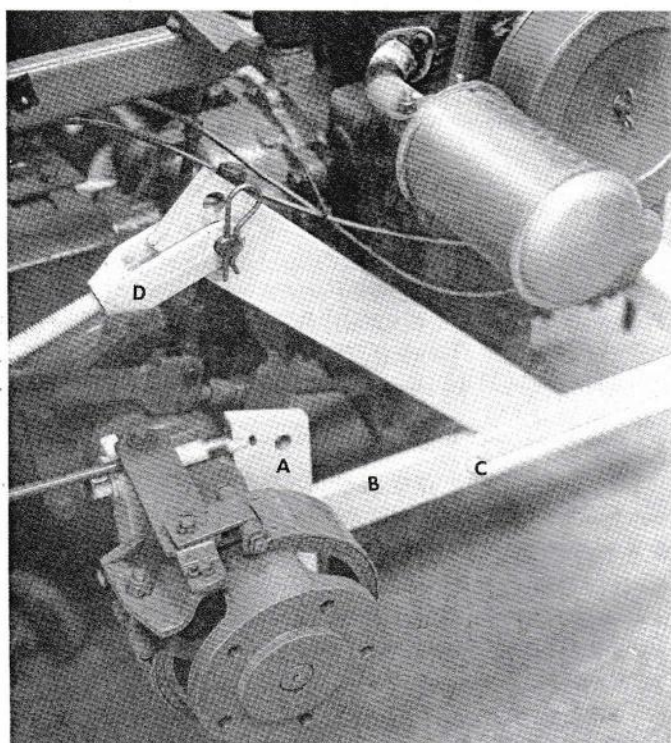
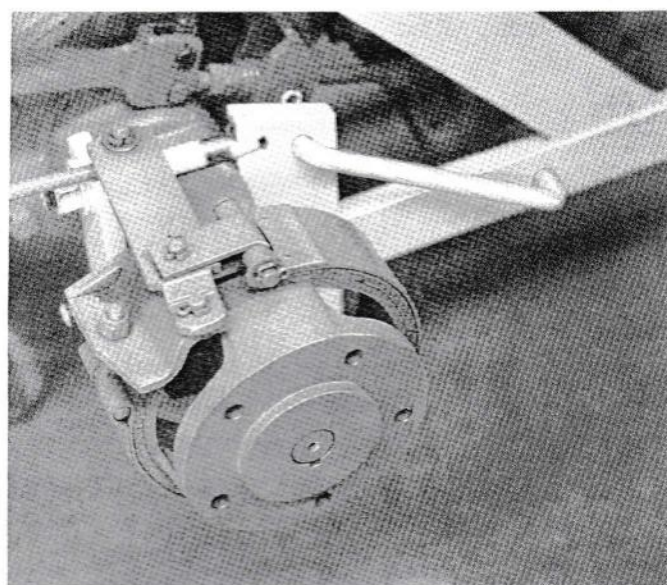

FIGURE 8, REAR HITCH
FIGURE 9, REAR HITCH
5. Attach the Clevis Rod (D) to the Rear Hitch Weldment and the bottom hole of the Lift Lever Shaft Weldment. Secure in place with Flatwashers and Cotter Pins.
6. The implements are attached to the hitch by a pin. The Rear Hitch need not be removed to use center-mount or front-mount attachments such as Rotary Mower, Snowblower, SnowDozer. Install the Retaining Braces (C, Figures 8 and 9) from the retaining assemblies (A, Figure 9) to the Rear Hitch Weldment (B) as shown in Figure 9. Remove the
The Rear Hitch need not be removed to use other attachments, such as snowblower and mower. Install the retaining braces from the retaining assembly to the rear hitch weldment. This makes the rear hitch rigid and the clevis rod can be removed. (See Figure 9).